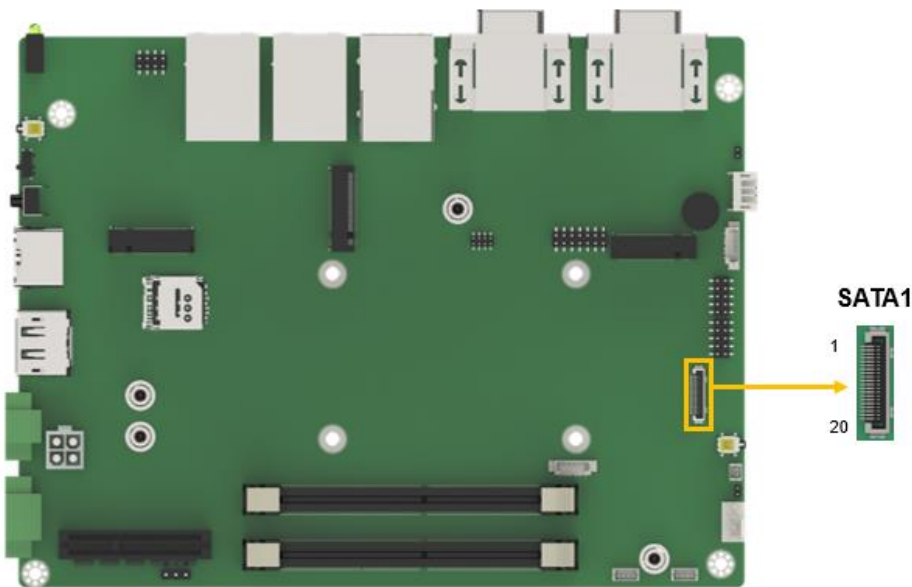

Figure 4-15: SATA 6Gb/s Drive Connectors Location
- CN Location:    See **Figure 4-15**